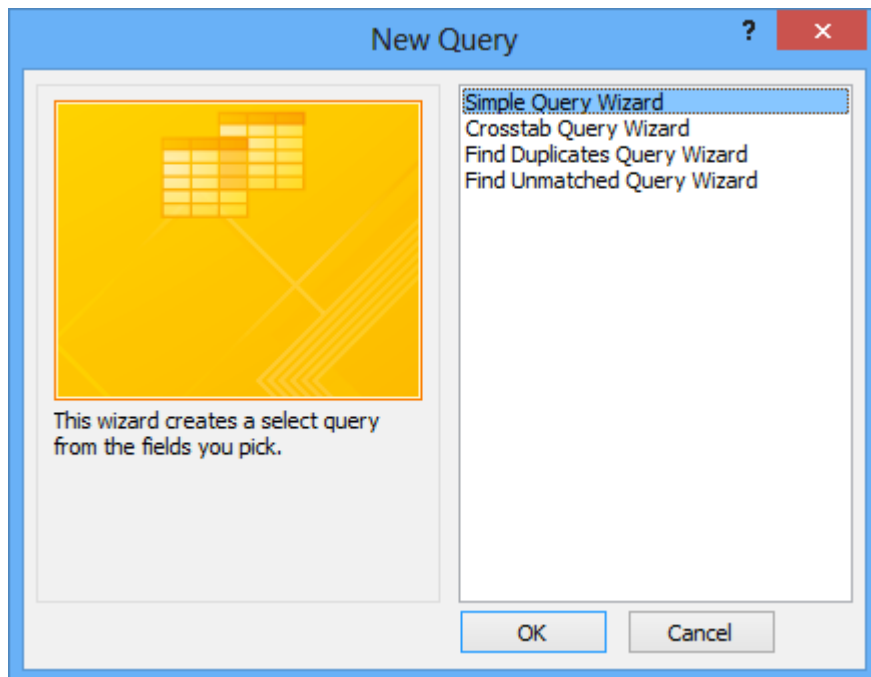

Figure 10: New Query Window of the Simple Query Wizard
1. Open the New Query Window: Choose **Create → Query Wizard** in the Queries group to open the New Query window (Figure 10). Click the **OK** button with the Simple Query Wizard highlighted.